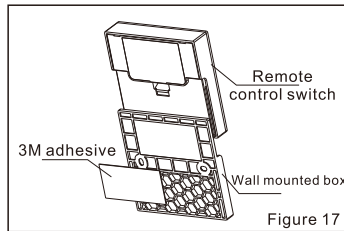

Figure 17
②Installation method 2 : Paste the 3M adhesive backing into the groove on the back of the base, select a suitable installation location, and paste the box to the wall (please ensure that the pasting location is clean and dry before installation, otherwise it will affect the pasting effect), insert the remote control into the box, turn on the fan unit, and confirm that all functions of the product are normal (Figure 17).